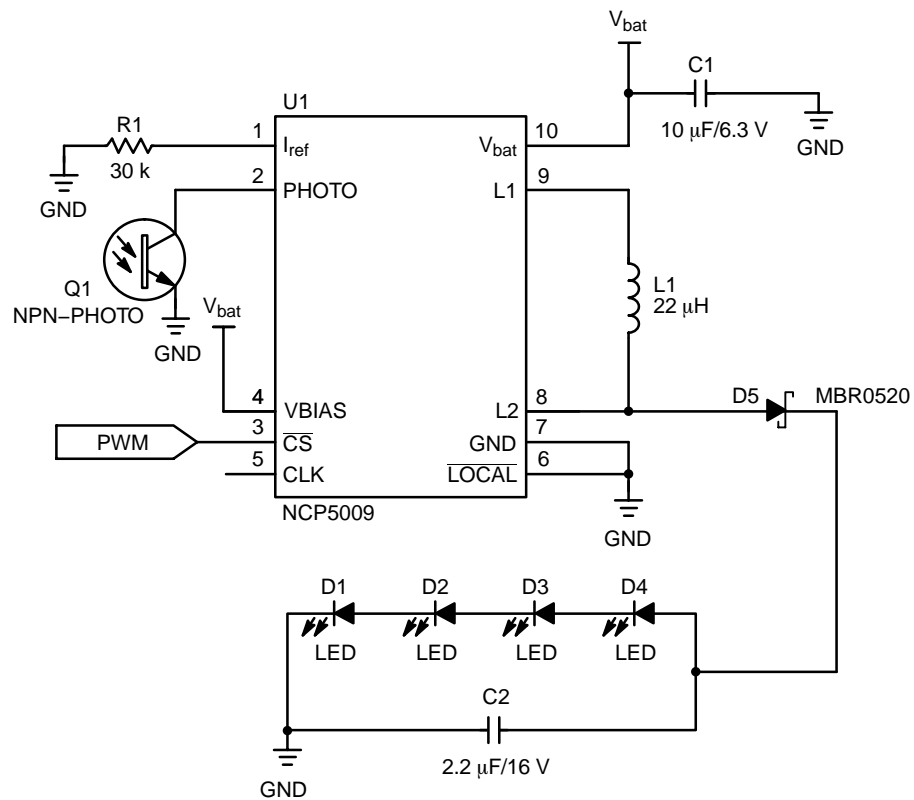

Figure 24. PWM Current Control Mode Operation in LOCAL Mode
- The LEDs brightness can be controlled in LOCAL mode with a PWM on \overline{CS} pin as depicted in Figure 24.